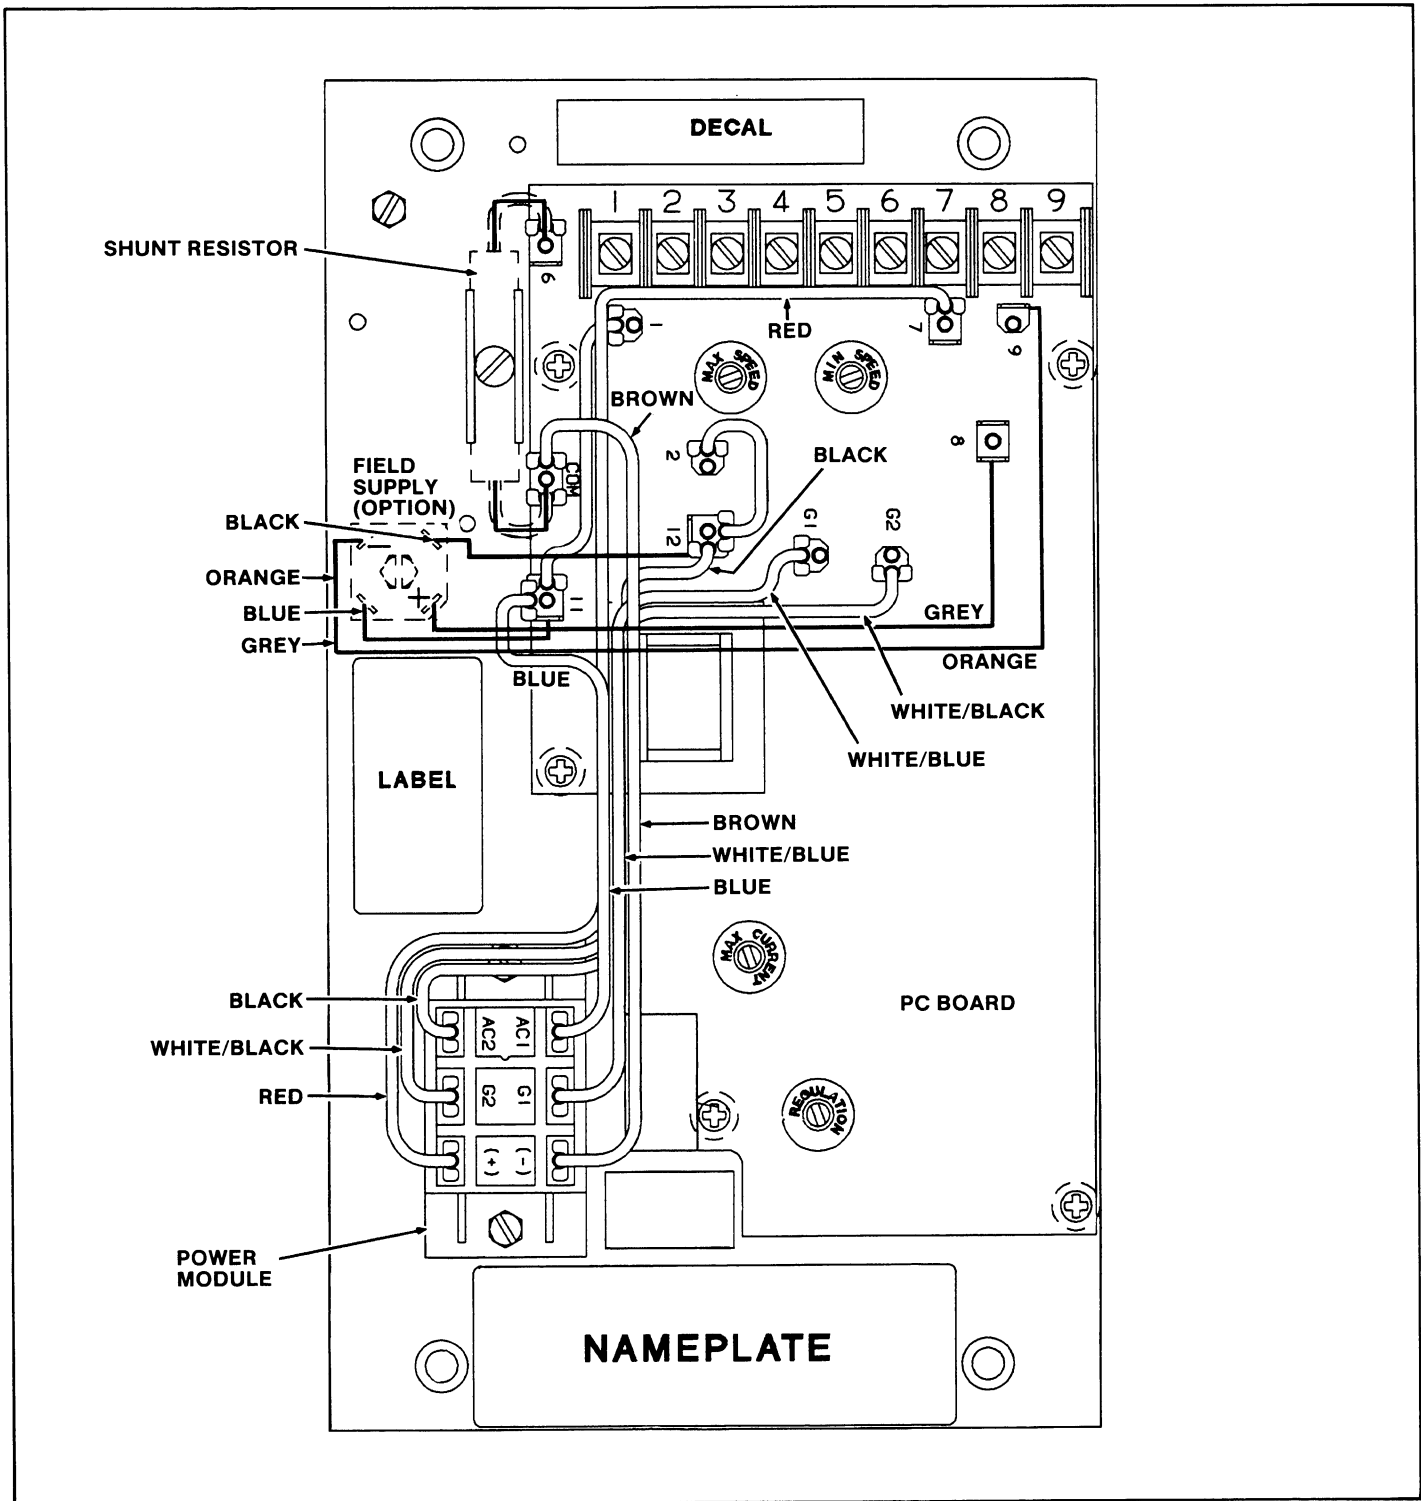

Figure 6 — Wiring Diagram For OPEN CHASSIS Controller
7. Reconnect leads to PC board quick connect terminals (see Figure 6).